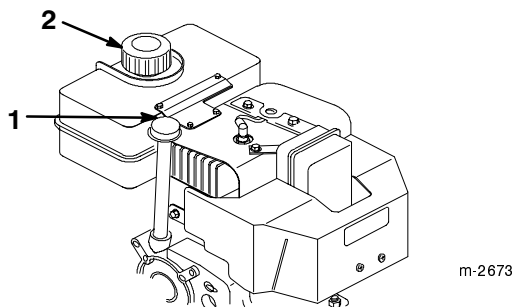

Figure 2
2. Clean the area around the dipstick (Fig. 2).
3. Remove the dipstick from the crankcase (Fig. 2).
1. Clean the area around the fuel tank cap (Fig. 2).